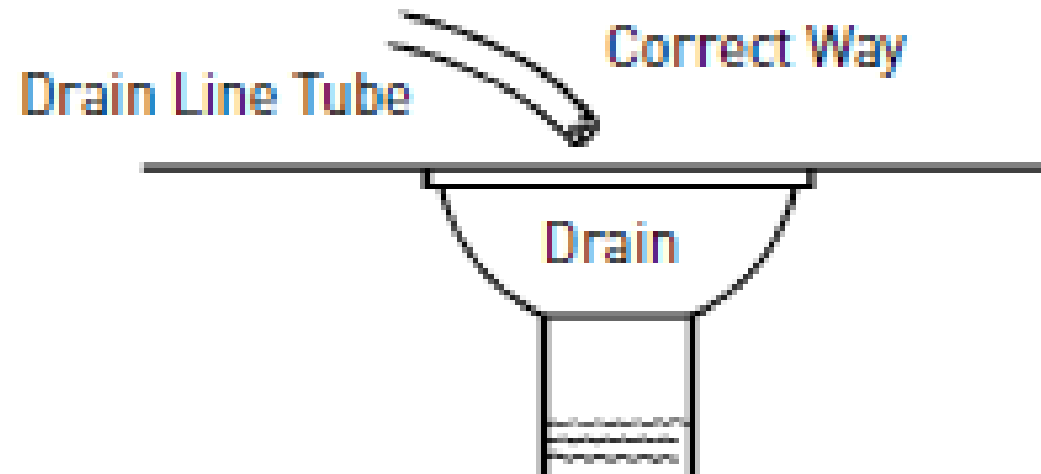
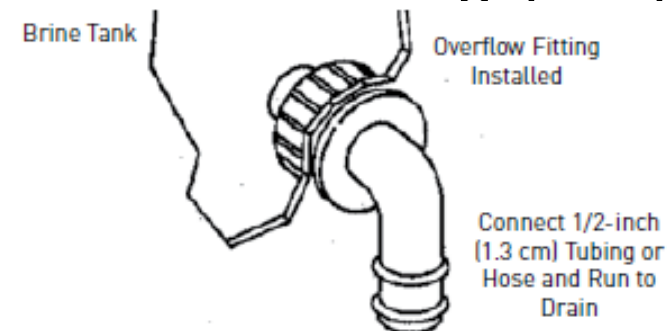

Figure 6
Figure 7
- To connect overflow, locate hole on side of brine tank. Insert overflow fitting (not supplied) into tank and tighten with plastic thumb nut and gasket as shown (Figure 7). Attach length of 1/2 inch (1.3 cm) I.D. tubing (not supplied) to fitting and run to drain. Do not elevate overflow line higher than 3 inches (7.6 cm) below bottom of overflow fitting. Do not tie into drain line of control unit. Overflow line must be a direct, separate line from overflow fitting to drain, sewer or tub. Allow an air gap as per drain line instructions (Figure 6).